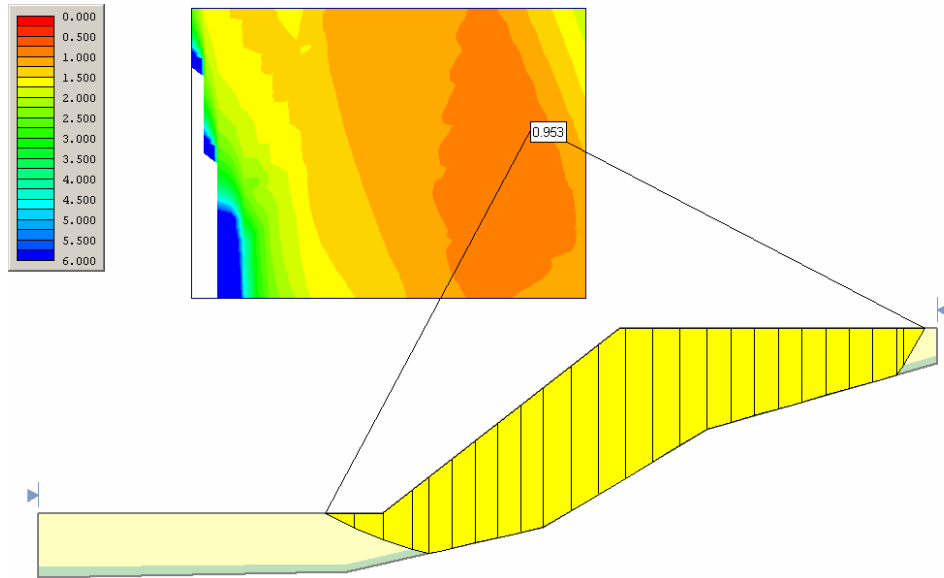

Figure 15: Grid Search used with Composite Surfaces option.
1. You will have to modify the model geometry, so that the lower boundary of the weak layer, is coincident with the lower edge of the external boundary (see Figure 15).
3. The results, in this case, should find a slip surface with a lower safety factor than the Path Search, but still NOT as low as the Block Search surface. This is shown in Figure 15.